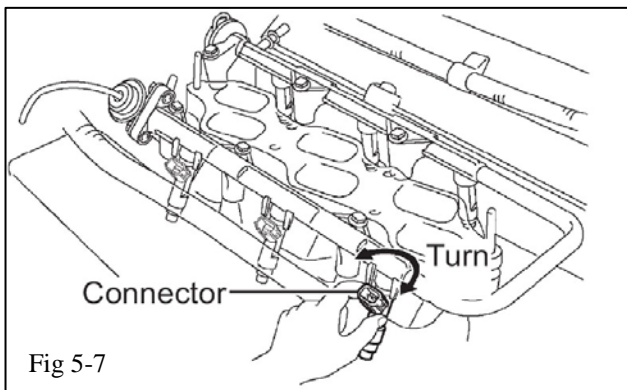

Fig 5-7
- (e) Place the fuel delivery pipe together with the new injectors on the intake manifold. Provisionally install the 6 bolts, which are used to hold the delivery pipe, onto the intake manifold. Check to see that the injectors rotate smoothly. Position the injector connectors facing outward. Tighten the 6 bolts. **Torque: 15 Nm (11 ft lbf)** (Fig 5-7).